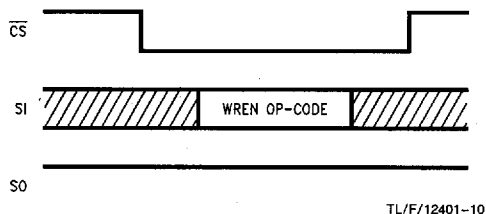

FIGURE 8. Write Enable
**WRITE ENABLE (WREN):** When  $V_{CC}$  is applied to the chip it "powers up" in the write disable state. Therefore, all programming modes must be preceded by a WRITE ENABLE (WREN) instruction. Additionally the  $\overline{WP}$  pin must be held high during a WRITE ENABLE instruction. At the completion of a WRITE or WRSR cycle the device is automatically returned to the write disable state. Note that a WRITE DISABLE (WRDI) instruction or forcing the  $\overline{WP}$  pin low will also return the device to the write disable state. See Figure 8.